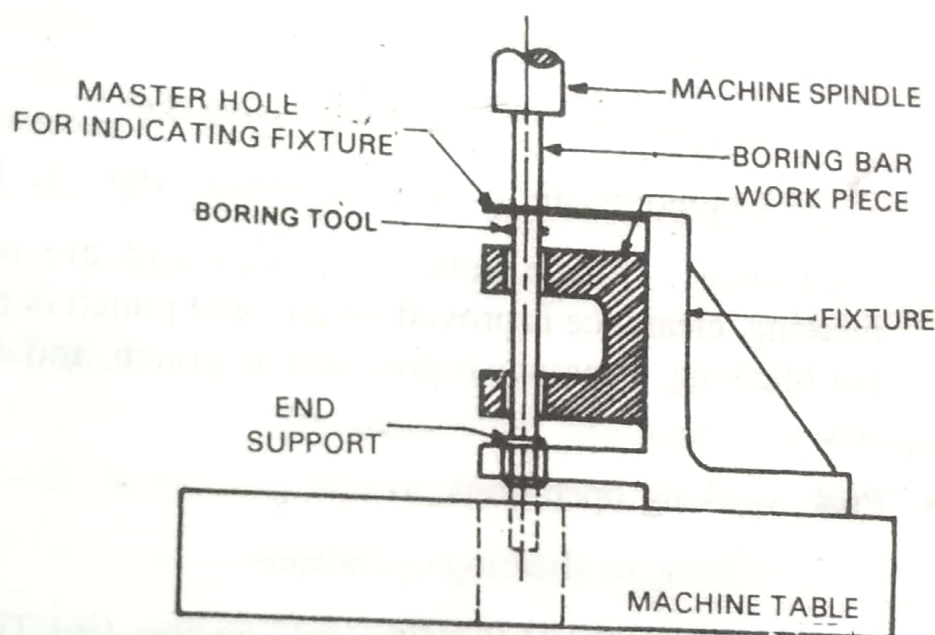

Fig. 5.45 Boring Fixture
3. **Boring Fixture** : Boring is the operation of enlarging the hole, and is achieved by rotating the boring bar in the work or by rotating the work piece around the boring bar. The purpose of boring fixtures is to guide the boring bar as in drilling or to hold the work piece in position with respect to boring bar, as in milling fixture. The boring fixture to hold the work piece in correct relation to the boring bar is shown in Fig. 5.45. Boring fixture do not require to be as rigid as milling fixtures because the cutting force induced in boring is small than the milling.